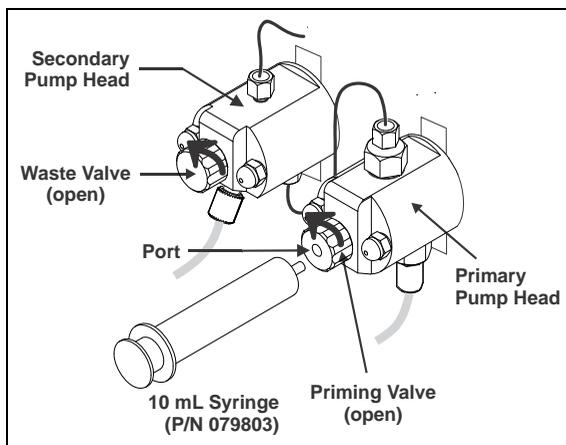

Figure 5-25. Priming the Pump Heads with IPA
1. Connect a 10 mL syringe (P/N 079803) filled with isopropyl alcohol (IPA) to the port in the primary pump head (see Figure 5-25).
2. Open the waste valve on the secondary pump head (see Figure 5-25) by turning the knob one-quarter to one-half turn counterclockwise.